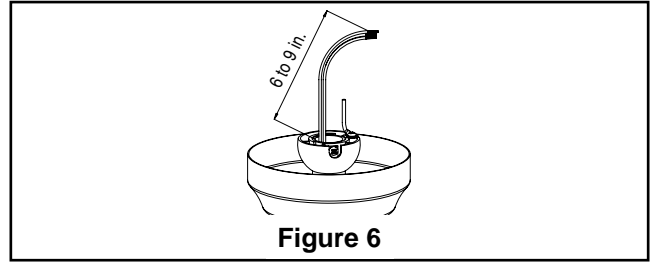

Figure 6
- 6. Cut off excess lead wire approximately 6 to 9 inches above top of the top of the downrod. Strip insulation off 1/2 inch from the end of each lead wire. (Figure 6)